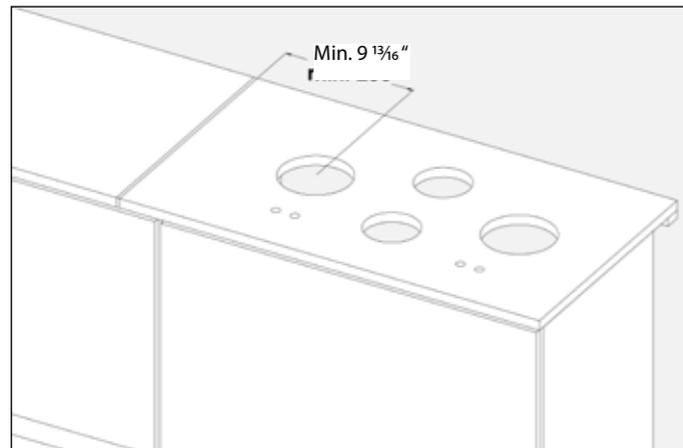

Fig. A4
- Glued connections and/or coupling joints may never intersect the cutout(s). Joints must be a minimum distance of $9 \frac{13}{16}$ inches from any cutout(s) (fig. A4 and fig. A5).